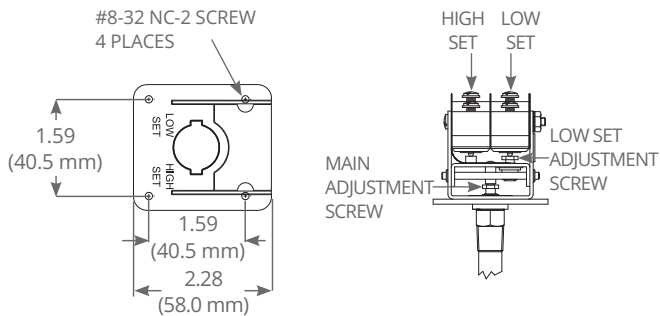

Figure 1
**ON DUAL SWITCH DEVICES, "LOW SET" SWITCH MUST ALWAYS BE SET EQUAL OR BELOW THE "HIGH SET" SWITCH (SEE FIGURE 1).**